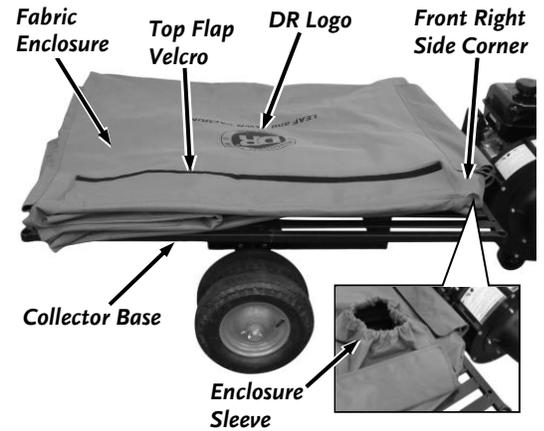

Figure 16
1. Stand at the right hand side of the machine (**Figure 16**).